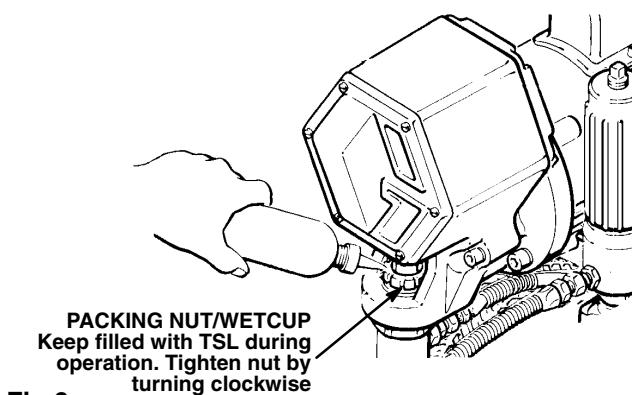

Fig 6
1. **Check the packing nut/wet-cup daily.** First relieve pressure; see page 9. Be sure the wet-cup is 1/3 full of TSL at all times to help prevent fluid buildup on the piston rod and premature wear of packings. The packing nut should be tight enough to stop leakage, but no tighter. Overtightening may cause binding and excessive packing wear. See Fig 6.